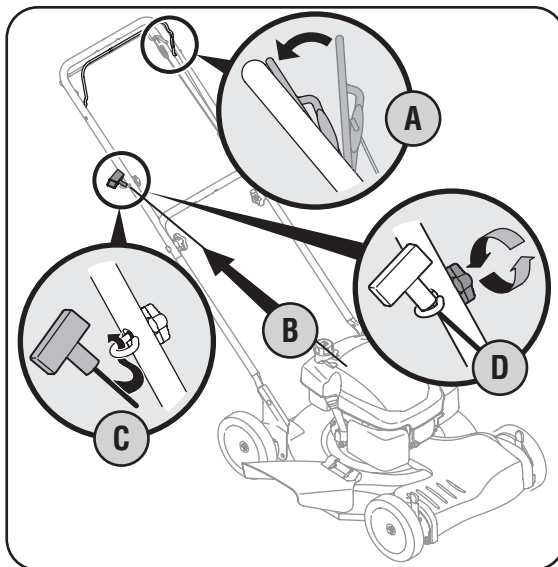

Figure 3-5
5. Rope guide Setup as follows in Figure 3-5: